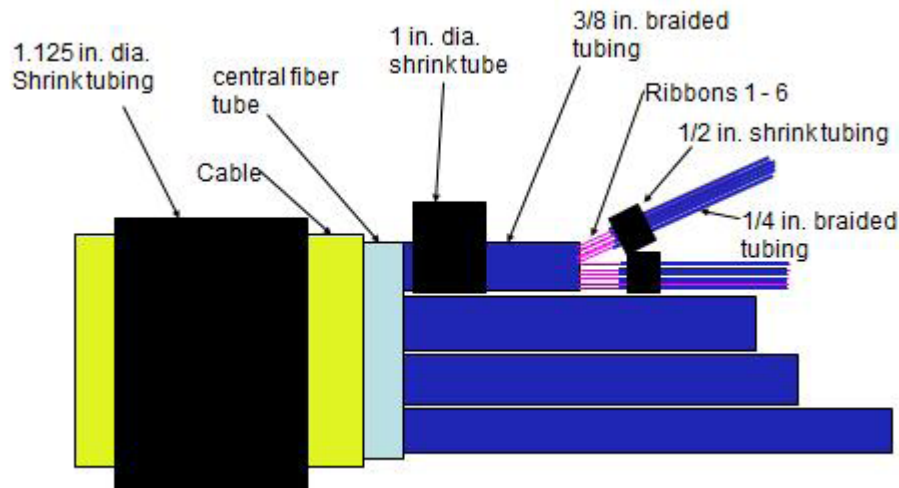

Figure 3
Step 8: Slide the pieces of 1/4-inch diameter braided tubing into the 1/2-inch diameter heat-shrink tubing keeping the heat-shrink tubing about 1 inch below the 3/8-inch diameter braided tubing. Repeat this for the three remaining bundles of three 12-fiber ribbons (Figure 3). Be sure the ends of the braided tubing protrude slightly out of the 1/2-inch heat-shrink tubing so the heat-shrink tube adhesive doesn't contact the ribbons.